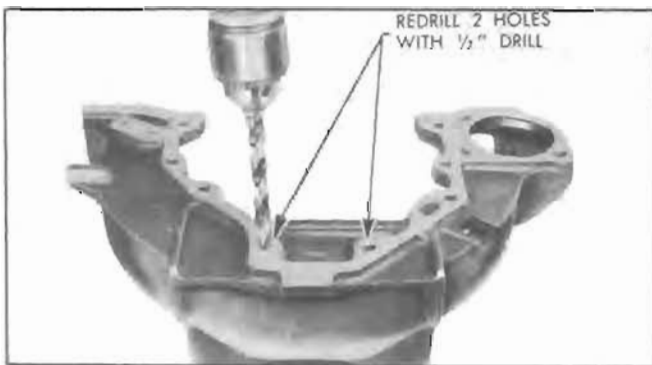

Figure 2-42—Enlarging Bolt Holes in Housing
2. Drill out the two upper bolt holes in flywheel housing and the four bolt holes in crankcase flange with a $\frac{1}{2}$ " drill. See figure 2-42 and 2-43.